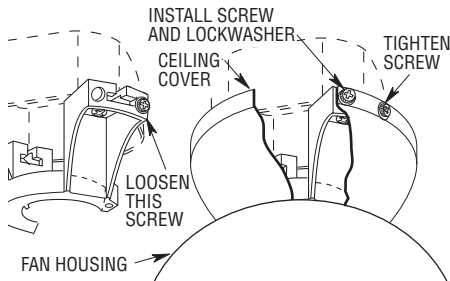

Figure 17
- 2. Lift the ceiling cover up to the hanger bracket. Engage the slots in the ceiling cover with the loosened screws in the bracket and turn the cover counter-clockwise (Figure 17). Be sure that the lockwashers are between the screw heads and the ceiling cover.